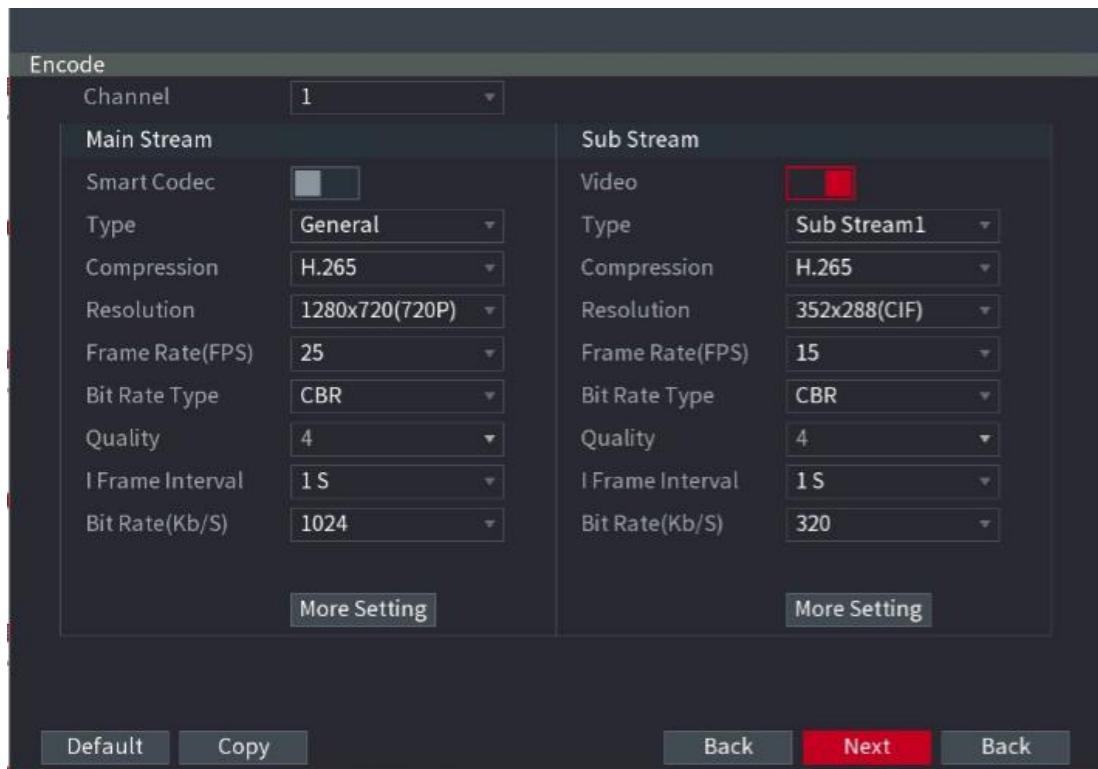

Figure 5-21
Step 1 After you have configured the InstaOn settings, on the **InstaOn** interface, click **Next**. The **Encode** interface is displayed. See Figure 5-21.